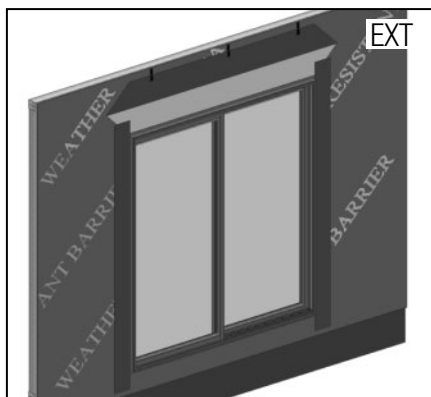

FIG. 18
- A) Cut and apply side flashing. Side flashing should run from the bottom of the sill flashing to 8" above the rough opening. (Fig. 18)